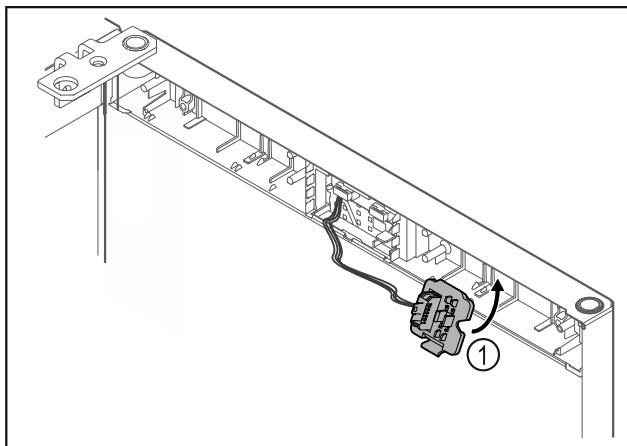

Fig. 25
- Snap in the plug holder Fig. 25 (1) on the opposite side.